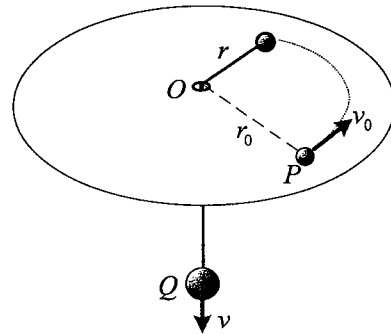

Fig. 2
- (2) (Please see Fig. 2) A particle P of mass $m = 0.5 \text{ kg}$ is connected by an inextensible string which passes through a hole O in a smooth table. When the particle P is $r_0 = 3 \text{ m}$ from the hole, it is rotating around the hole in a horizontal circular path such that its speed is $v_0 = 5.4 \text{ m/s}$. If, by applying the particle Q of mass $M = 1 \text{ kg}$, the cord is then pull down through the hole. Determine the speed v of the particle Q at the instant it is $r = 2 \text{ m}$ from the hole. (25%)